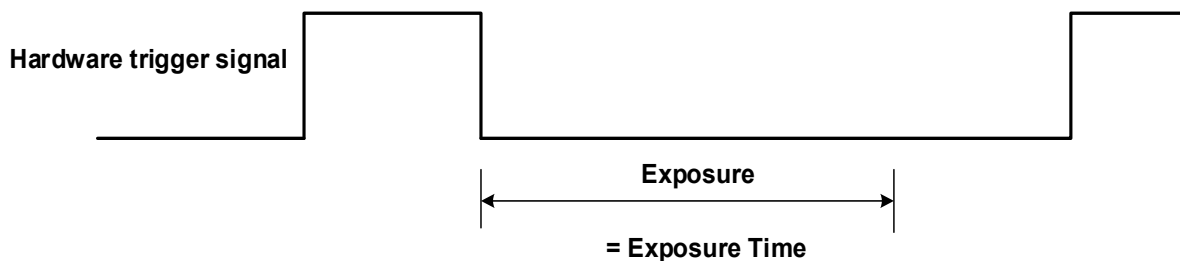

Figure 8-28 The sequence diagram in falling edge trigger of Timed exposure mode
- If falling edge triggering is enabled, exposure starts when the trigger signal falls and continue until the exposure time has expired, as shown in Figure 8-28.